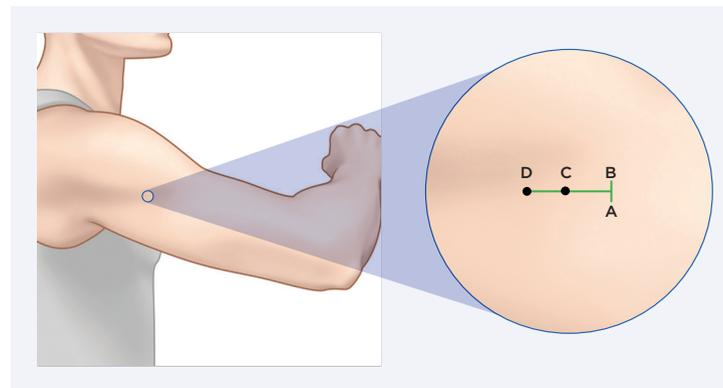

Figure 1
Local anesthesia (approximately 2 mL of Lidocaine) should be injected approximately 5-8 mm along the planned incision (along AB) and approximately 30 mm perpendicular to the planned incision (along CD) which is the planned track of the blunt dissector tool. (Figure 1).
Start incision at point B (Figure 1) and go towards point A, until the incision is approximately 5-8 mm.
2. Remove the blunt dissector from the tray and introduce the blunt dissector at approximately a 45 degree entry angle at the midpoint between A and B (Figures 1 & 2) so that the tip and tapered portion of the blunt dissector are under the skin, and until the depth guards are touching the skin.